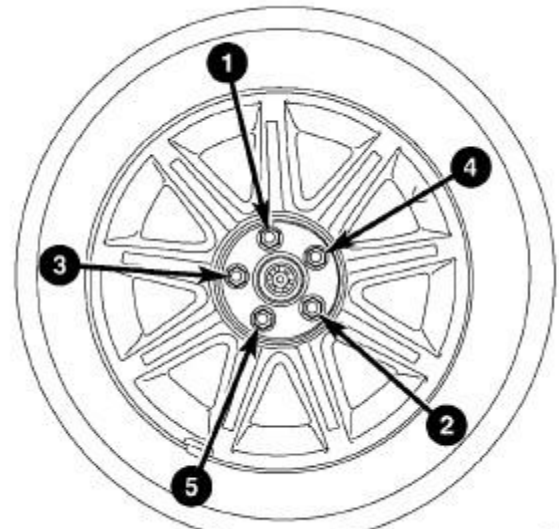

Figure 14 – Wheel Tightening Sequence
59. Install the right front tire and wheel assembly. Tighten the lug nuts to 110 ft. lbs. (150 N·m) in the sequence shown in Figure 14.